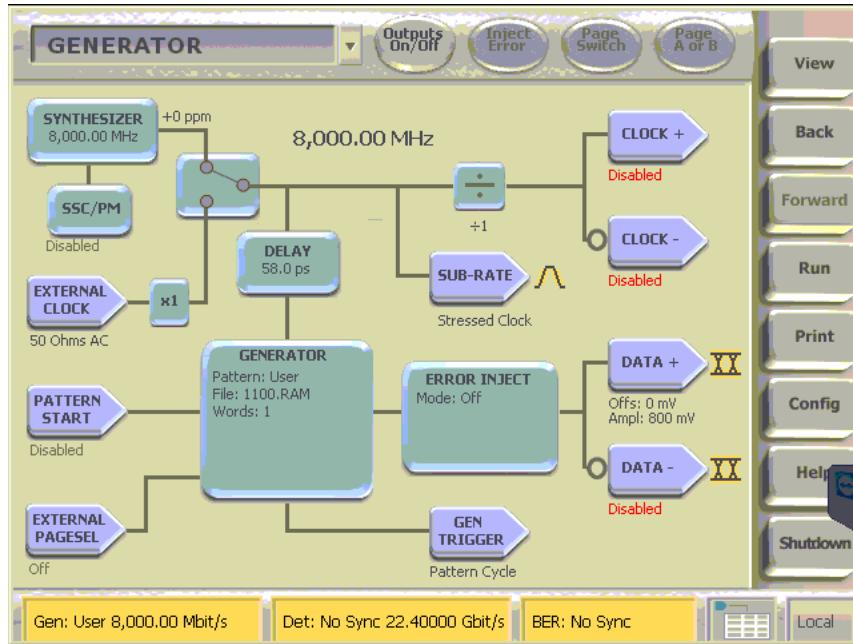

FIGURE 47. BERTSCOPE PATTERN SETUP
5. Set the Pattern of generator to 1100.ram (1-1-0-0 pattern). See Figure 47.